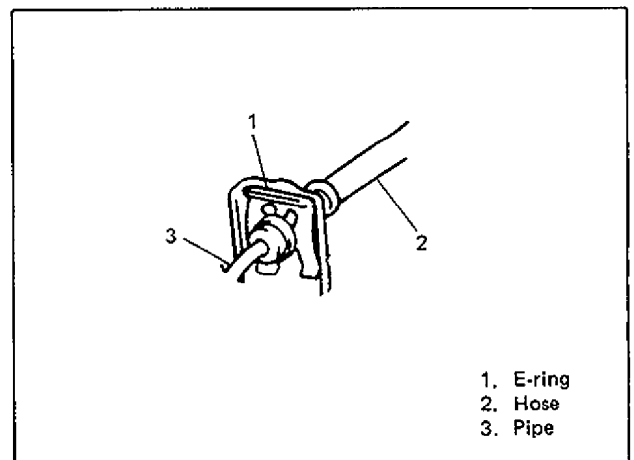

Fig. 7C1-4-4
- For installation angle of each hose, refer to Fig. 7C1-4-1.